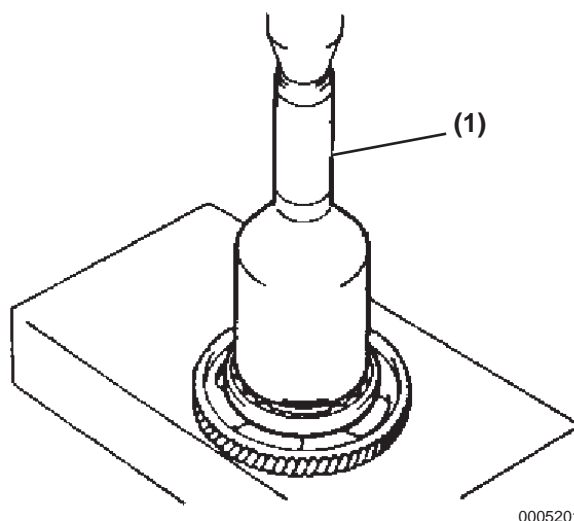

Figure 5-201
6. Press in a new bearing using a suitable tool (**Figure 5-201, (1)**) and a press.